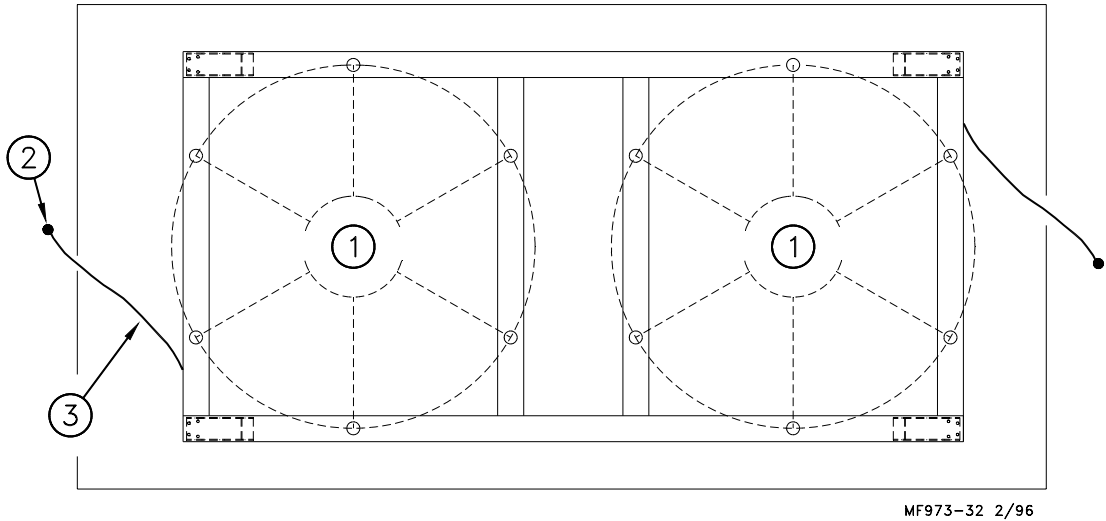

Figure 18. Ground Rod placement for bin platform installations (top view).
- Single or multiple bins set on scale platform require (2) ground rods. The ground rods should be located at opposite ends of the pad. Only the platform needs to be attached to the ground rod. See Figure 18.